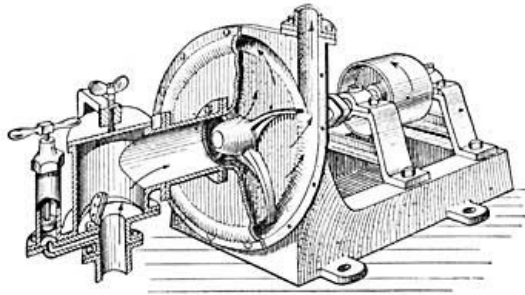

FIG. 136.—Centrifugal pump with part of the casing cut away to show the wheel.
**185. Irrigation and Drainage.** History shows that the lifting pump has been used by man since the fourth century before Christ; for many present-day enterprises this ancient form of pump is inconvenient and impracticable, and hence it has been replaced in many cases by more modern types, such as rotary and centrifugal pumps (Fig. 136). In these forms, rapidly rotating wheels lift the water and drive it onward into a discharge pipe, from which it issues with great force. There is neither piston nor valve in these pumps, and the quantity of water raised and the force with which it is driven through the pipes depends solely upon the size of the wheels and the speed with which they rotate.